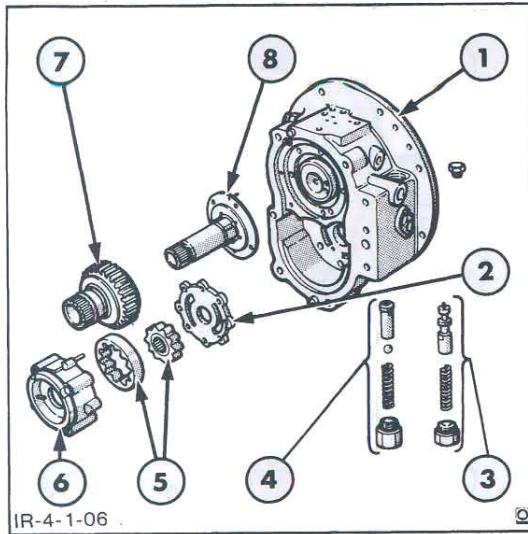

Figure 70
4. Remove the hydraulic pump retaining bolts and lift the pump assembly from the distributor housing, Figure 70.
5. Remove the by-pass valve plug and extract the shim, spring ball and valve seat, Figure 70.